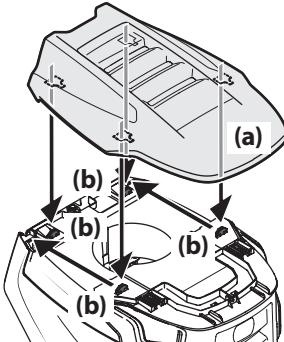

Figure 6
1. To install the snap-on hood topper (a), line up the holes on the hood topper (a) with the tabs (b) in the hood frame as shown in Figure 6.